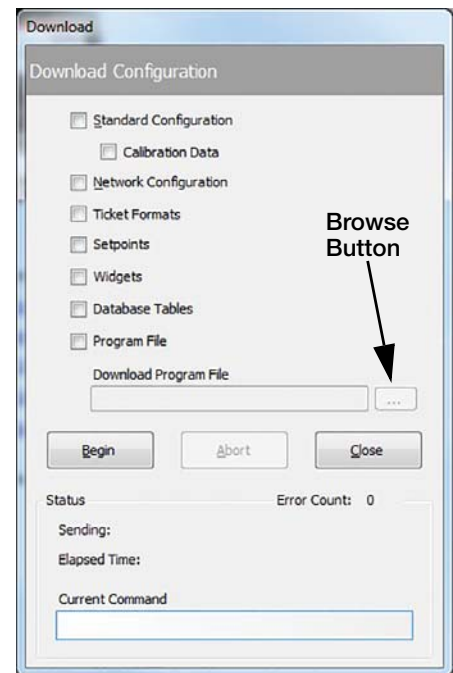

Figure 13-3. Import Configuration
3. In Revolution, from the *Communications menu*, select **Download Configuration**. A menu box will appear, see Figure 13-3.